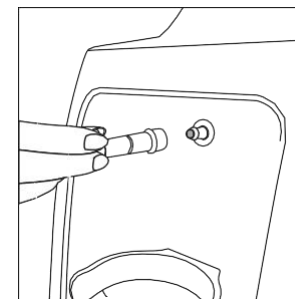
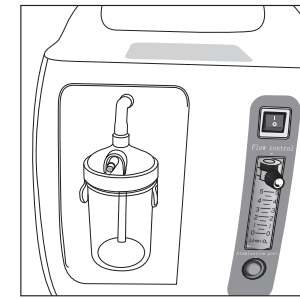

Figure 3
Figure 4
3. Do either Step ① or Step ② below.
① If you are not using a humidifier, connect your nasal cannula to a oxygen outlet port, as shown in the Figure 3.
② If you are using a humidifier, follow the steps below:
B. Lock the humidifier into the sunk part, then connect oxygen outlet port to the top of the humidifier, as shown in the Figure 4.